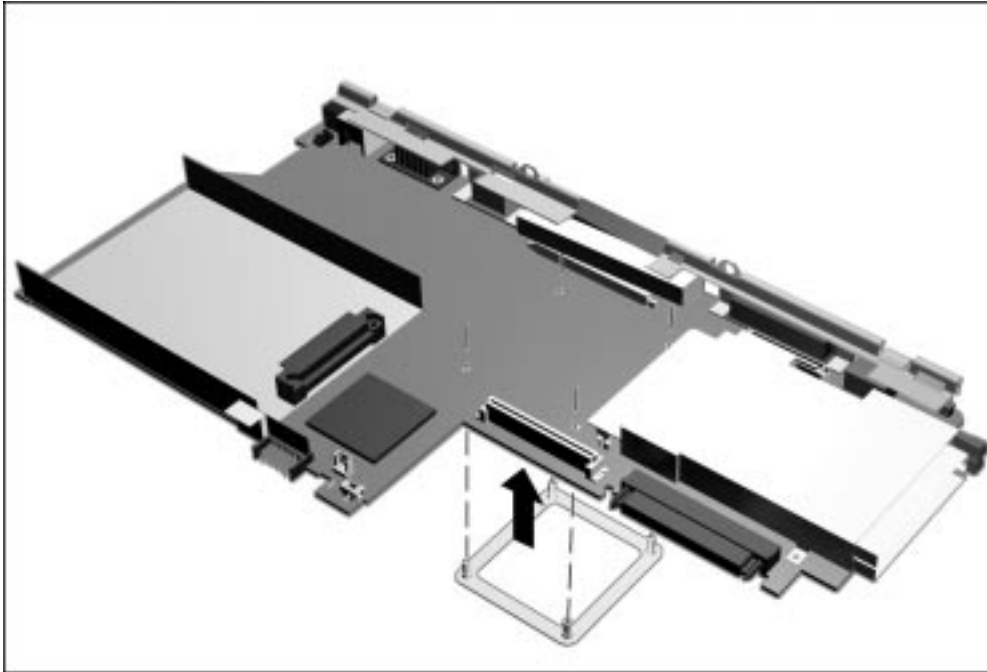

Figure 5-44. Installing the Processor Attach Bracket
1. Insert and hold the processor attach bracket in place on the bottom of the system board (Figure 5-44).